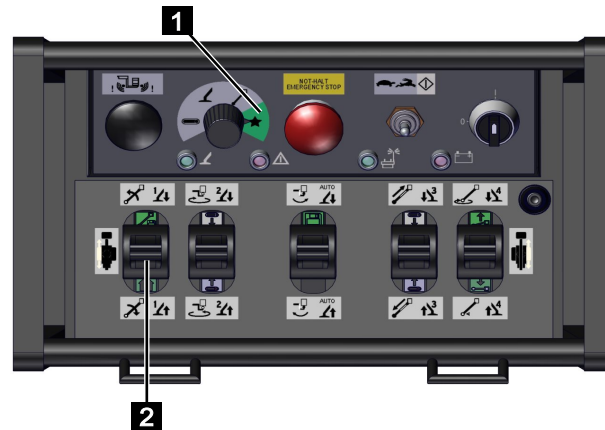

Fig. 141
2. Set the function selector (Fig.141/1) to [special function] (green).
3. Use the control lever (Fig.141/2) as per the following table.